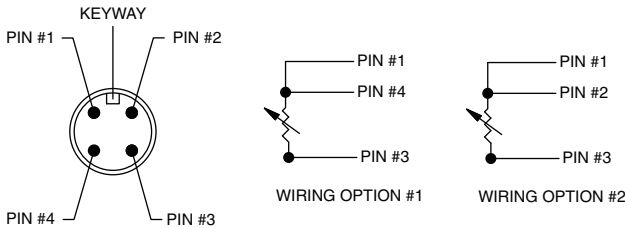

Figure 1. Wiring Options
* See Figure 1 for Wiring Option information